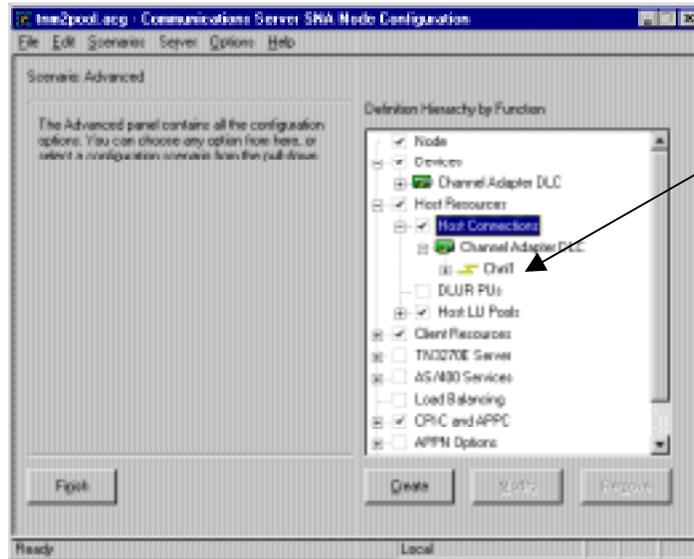

Figure 15-8. Host Connection
3. Verify that a host connection has been defined for the adapter (Figure 15-8).